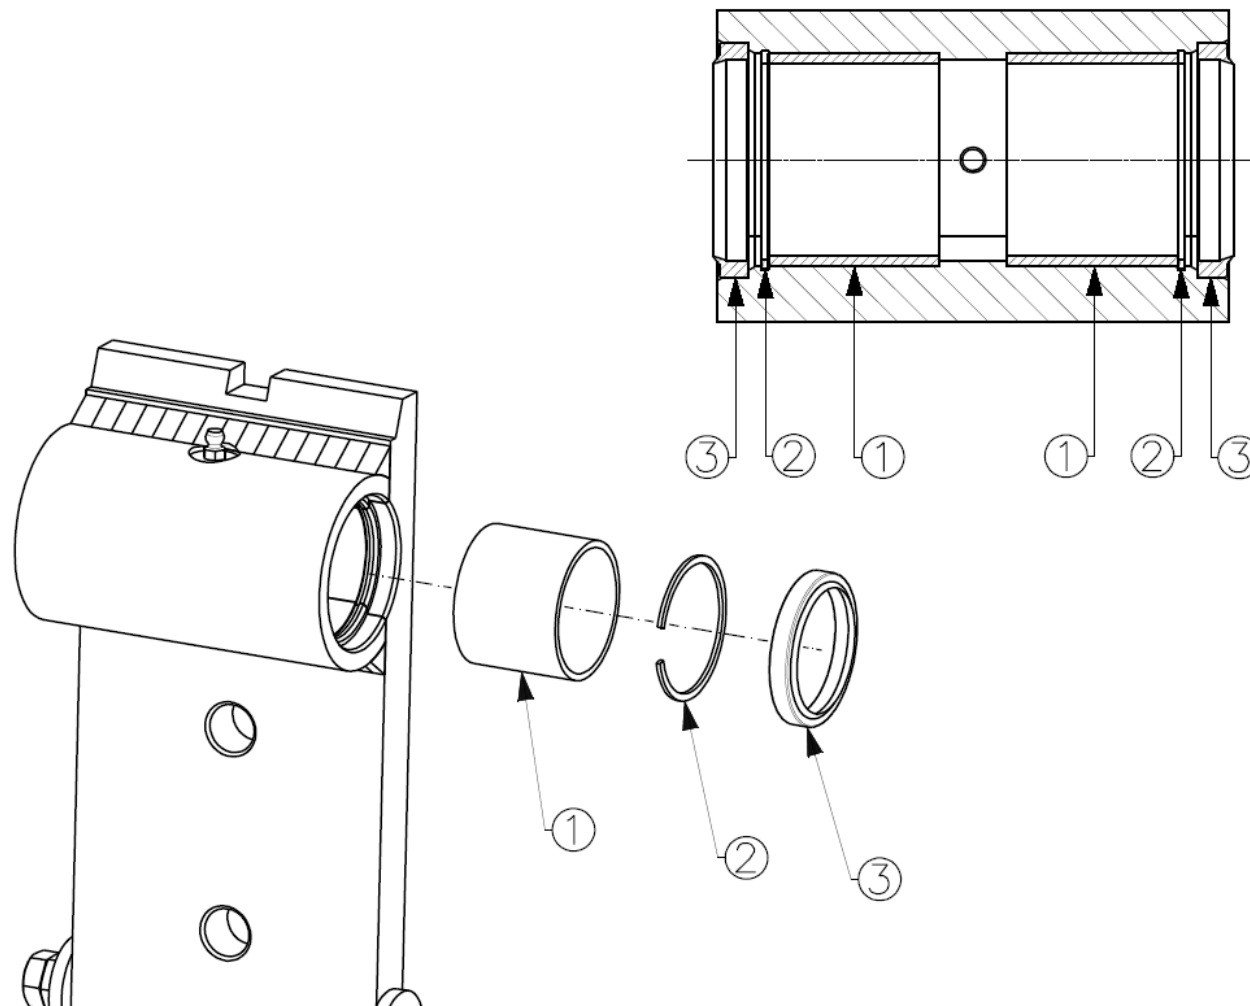

**Fig. 038**
7.4.3. **Remove the nuts from the cylinder rod "a", Fig. 038 (ISO 3318 19 mm wrench loads up to 3.6 t, 22 mm for 5 t and 27 mm for class 4 to block the rod, and ISO 1174 27 mm socket wrench loads up to 3.6 t, 30 mm for 5 t and 36 mm for class 4, to loosen the nut).**
7.4.6. **Remove the screws and nuts from the chromed bars "b", Fig. 038, from the central steam heads (ISO 3318 19 mm wrench for the nuts and ISO 3926 6 mm wrench for the screws).**